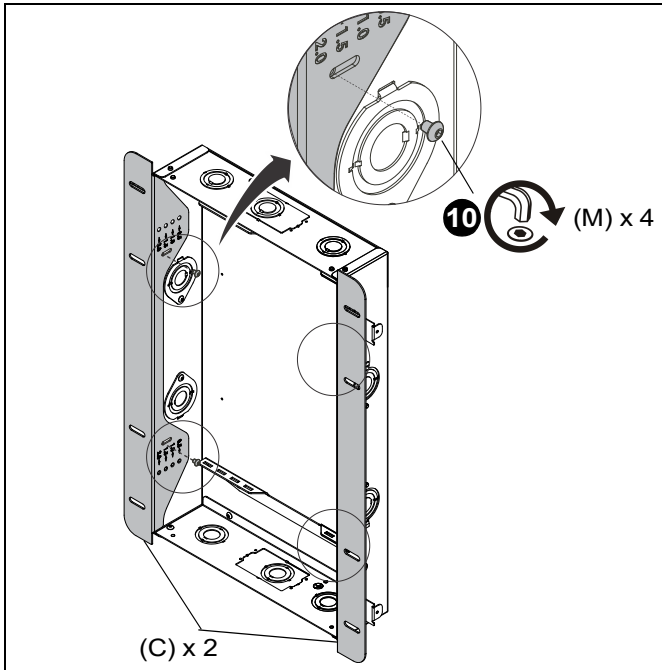

Figure 5
10. Place flange (C or D) over anchors and align mounting holes in display mount with holes in anchors. Loosely use two #10-24 x 1/4" button head cap screws (M) to secure each side flange (C) to installed boxes. (See Figure 5)